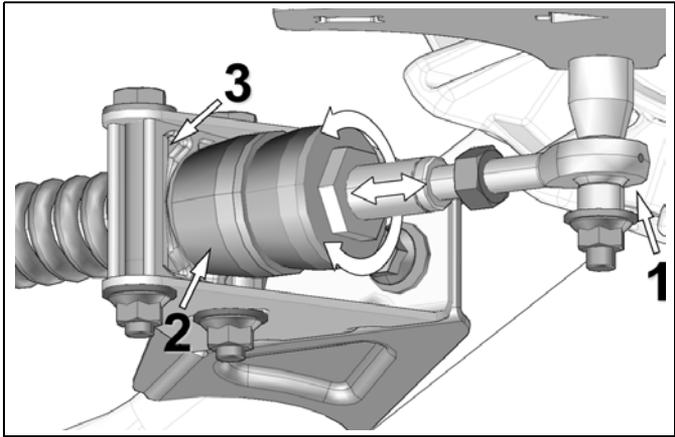

Figure 16
- Turn stabilizing arm nut to adjust length of rod end (1) and get rubber cone (2) to apply light pressure on anti-rotation retainer (3). See Figure 16.